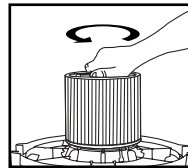

FIGURE 20
25. To remove the filter for cleaning, again hold the tank cover and turn the filter retainer counter-clockwise to loosen and remove. **FIGURE 20.**